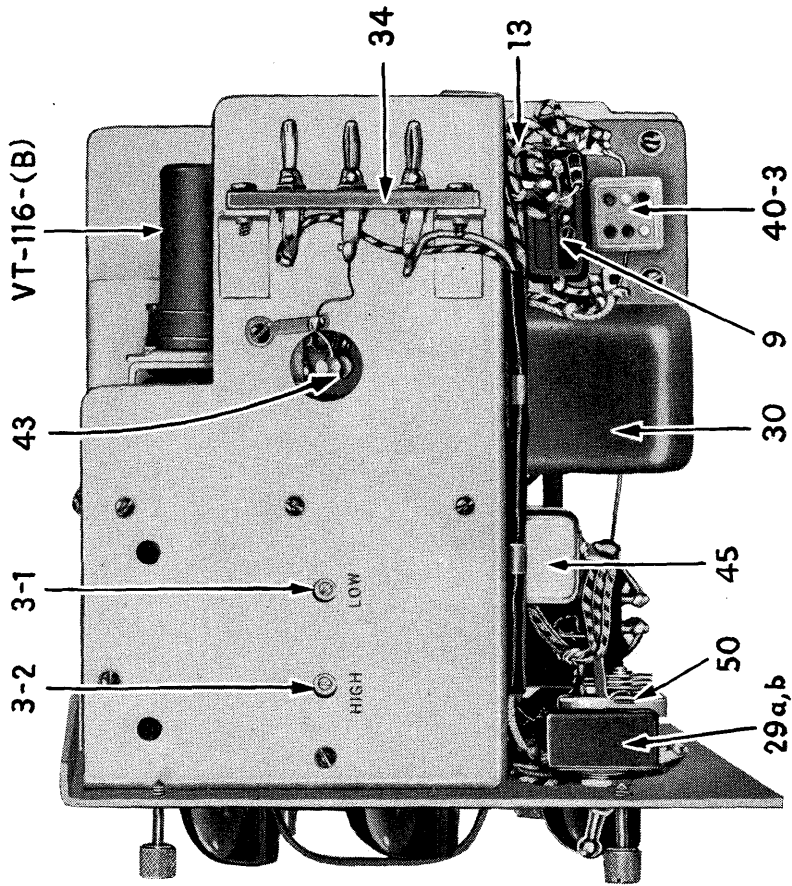

FIGURE 10—Frequency Meter BC-221-AF, Right Side of Chassis
a. It may be found that the heterodyne oscillator cannot be corrected to agree with the calibration as explained in paragraph 9, particularly if the frequency meter is being used in a locality where there is extremely high or extremely low humidity. Under such conditions, and then only, it becomes necessary to reset the heterodyne trimmer capacitors 3-1 and 3-2. You can reach the trimmer adjusting screws through the holes marked LOW and HIGH on the right hand wall of the frequency meter chassis after it has been removed from the cabinet (see Fig. 10). The chassis should be conveniently placed on a firm foundation to the right and in front of the cabinet, and the respective power input plugs and jacks should be interconnected with laboratory test leads. A small screw driver will be required to make these adjustments, the necessary procedure being as follows:
- (1) Place the unit in operation by throwing POWER switch to ON. Throw the FREQUENCY BAND switch to LOW and allow at least ten minutes for warm-up before proceeding.
- (2) Set the DIAL UNITS and DIAL HUNDREDS scales to agree with the reading given for 250 kc. on Page 27 of the calibration book. Set the CORRECTOR dial at midscale (4.5 divisions). Throw the operation switch to XTAL CHECK.
- (3) With a small screw driver rotate the LOW band trimmer (capacitor 3-1) toward the right, while listening in the phones, until the heterodyne oscillator is set to zero beat of a strong beat with the crystal calibrator.
- (4) Check the ability of the corrector capacitor to reset to zero beat at all crystal check points listed in the calibration book, proceeding as outlined in paragraph 9.